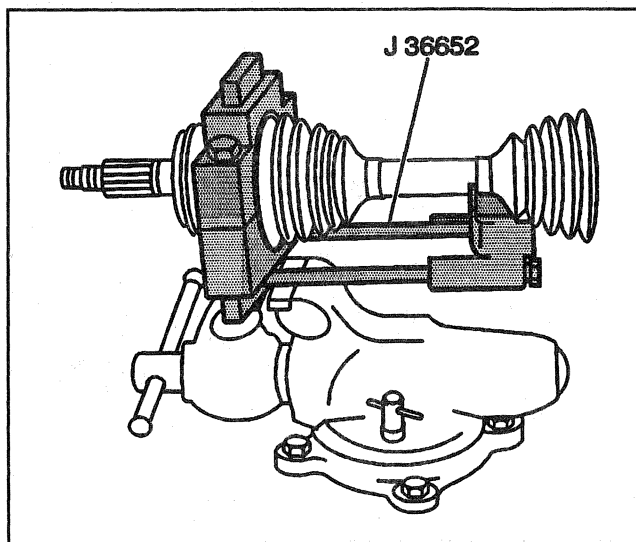

Figure 57—Installing Swage Ring
- b. Place the top half of the tool on the lower half of the tool and check for proper alignment (Figures 57 and 58).
- Make sure the seal, housing, and swage ring all remain in alignment (Figures 57 and 58).
Remove or Disconnect (Figures 57, 58, and 62 through 65)
- B. Place the top half of the proper size tool on the lower half of tool and check for proper alignment and dimension (Figures 57, 58 and 65).
- Make sure that the seal, housing and swage ring all remain in alignment (Figures 57 and 58).